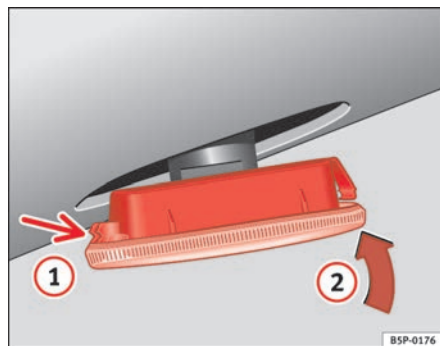

Fig. 191 Side indicator
- First place the indicator in the opening in the bodywork, fixing the tabs ⇒ fig. 191, arrow ①.
- Insert the bulb as shown by the arrow ② ⇒ fig. 191. ■